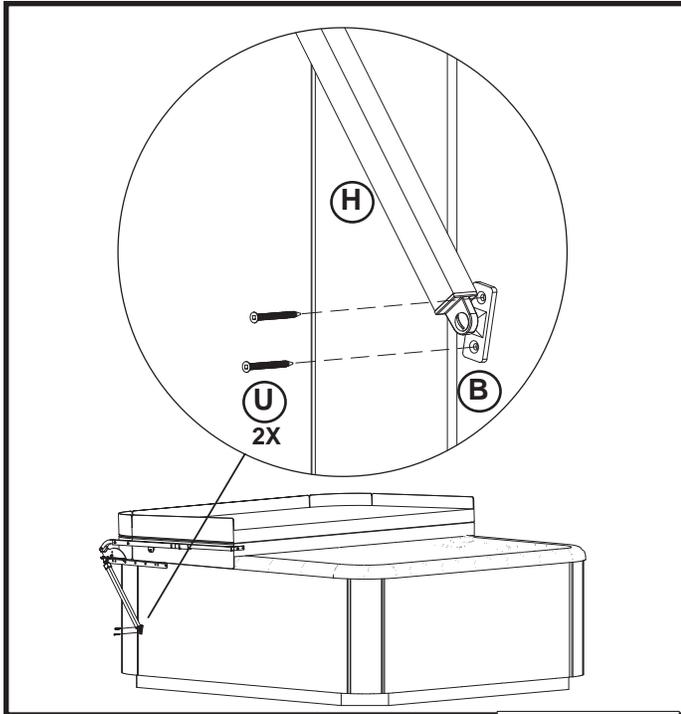

Figure 6.2
2. Using the Side Hinge (B) as a template, mark the two holes on the side of the spa cabinet (Figure 6.2).
3. Drill the two marked holes using a 1/8" (3mm) bit with approximately 1/2" (12.5 mm) maximum depth (Figure 6.2).
4. Attach the Side Hinge to the side of the spa cabinet using (2) 2" Flat Head Screws (Figure 6.2). Bag # 2 (U) (#10 2" Flat Head screws).